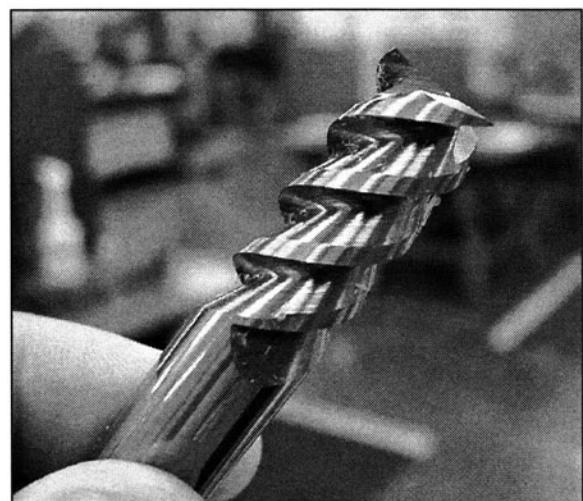

FIGURE 7-23 High helix end mills are rigid and produce smooth milled surfaces.
30. *Use high helix carbide end mills to produce smooth surfaces. (See Fig. 7-23)*